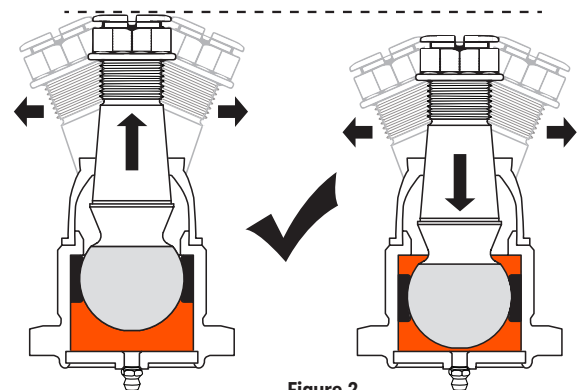

Figure 2
- Mevotech TTX Front Upper Ball Joint TXMS25519 features both a sliding and swing movement between the stud and housing to compensate for variation in the axle assembly. This is normal operation. **See Figure 2.**